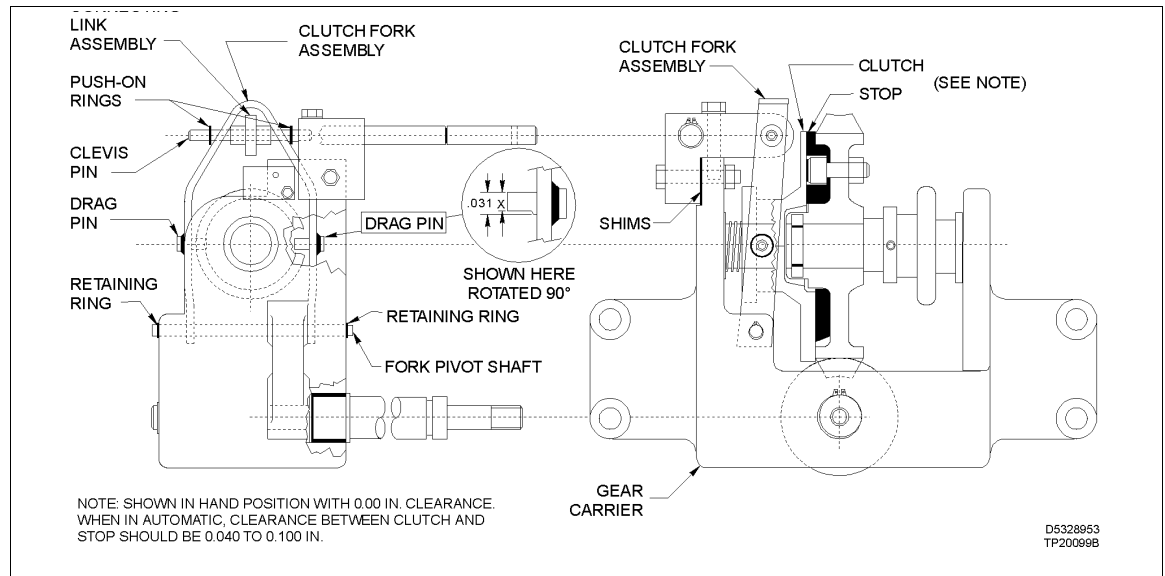

Figure 8-6. Clutch and Clutch Fork Assembly
NOTE: Refer to Figure 8-6.
7. If the gage shows less than 1.0 mm (0.04 in.), remove the clutch fork assembly and measure the drag pins directly. Refer to Figure 8-6 for proper inspection of the clutch clearance and the drag pins.
13. Normally, a drag pin measures 7.9 mm (0.31 in.) in diameter. If the diameter measures less than 6.4 mm (0.25 in.), replace the clutch fork assembly. The diameter is represented as x in Figure 8-6 and must be between 6.4 and 7.9 mm (0.25 and 0.31 in.) to pass the inspection.